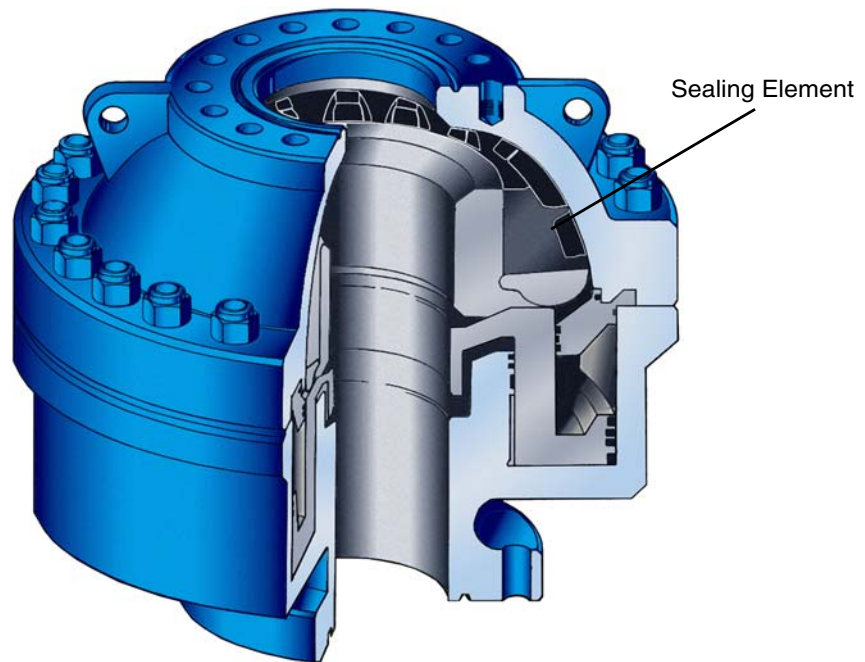

Figure 4-3. Sealing Element Check (Applicable to All Models)
5. Visually check the sealing element for irregularities such as cracking, gouging, chunking, or splitting (see Figure 4-3).